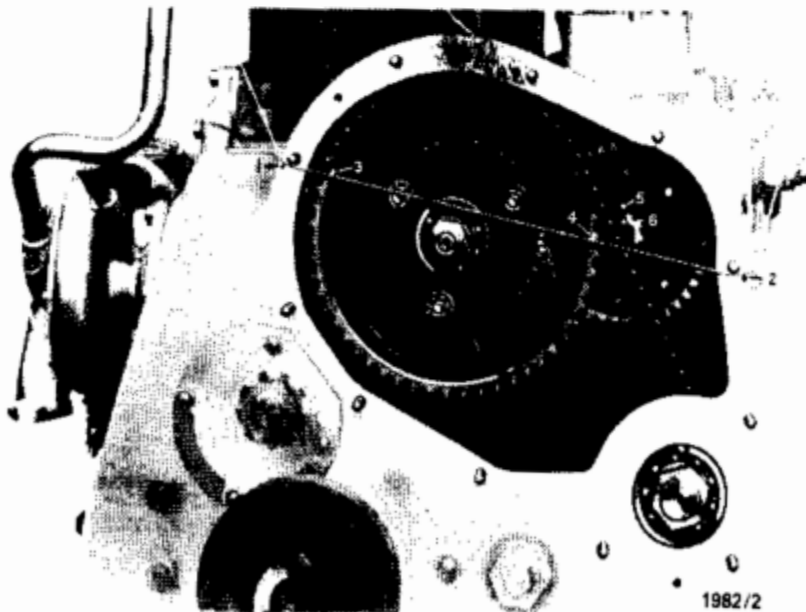

Fig. 47. Timing Marks for Valves and Fuel Injection
With the chaincase cover removed and flywheel set to bring No. 1 crank to T.D.C. at end of compression stroke (as directed in paragraph 69) the following conditions will obtain if chainwheel, gears and splines have been correctly meshed (See Fig. 47).
(1) The dots 1 and 2 on the gearcase and the dots 3 and 4 on the periphery of the valve camshaft gear will all lie on a straight line as indicated by the stretched cord in Fig. 47.
- (2) Visible through one of the quadrant shape apertures in the chainwheel will be seen the dotted tooth on the valve camshaft gear lying between the two dotted teeth of the gear on the fuel pump camshaft.
- (3) In the centre of the topmost chainwheel aperture the lune shaped cut-out will be seen to coincide with the lune shaped mark on the periphery of the valve camshaft hub. Should the chainwheel hub and gear be incorrectly bolted together this will be immediately visible as the scribed line on the hub will not coincide with the profile of the lune.
- (4) The dotted spline on the fuel injection pump drive shaft will coincide with the dot on the splined hub (see dots 5 and 6 Fig. 47).